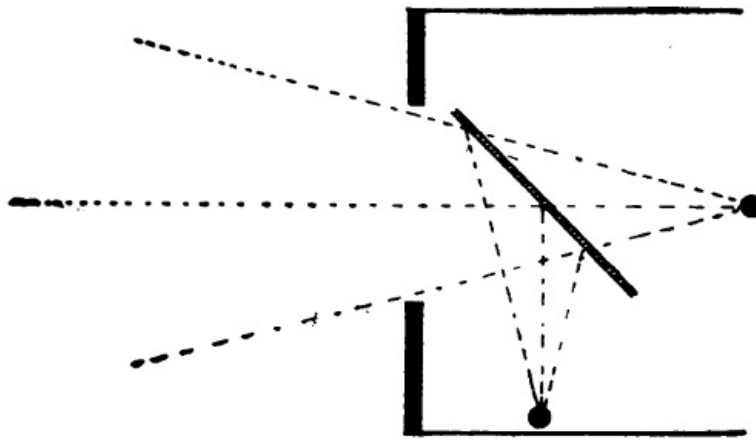

FIGURE 115.
*Dissolving Views of Living Pictures.*—This act requires a large glass plate of good clear quality arranged upon the stage, as shown in Figure 115. One of the poses is arranged as at the black circle behind the glass and when illuminated is seen by the audience. The other is arranged at one side. The lighting of both is connected to the same dimmers in such a manner that when the light of one is increasing, that of the other is diminishing. Thus the two figures are dissolved into one another. The paths of the various rays of light to different parts of the auditorium are shown in the drawing and it is possible to procure perfect registry.